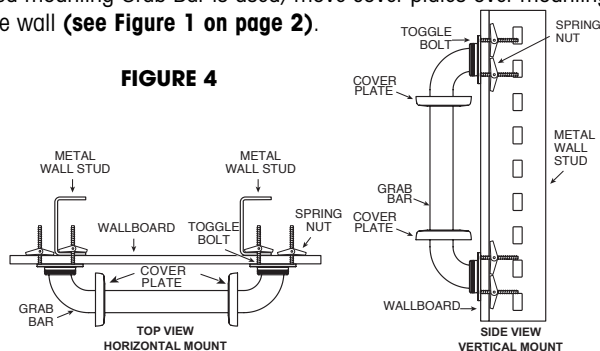

FIGURE 4
4. Position the end of the Grab Bar with the **TOGGLE BOLTS** attached so that you can push the spring nuts and butt ends of the **TOGGLE BOLTS** through the corresponding holes that have been drilled. The spring nuts *must be completely* through the holes in the wall (see **Figure 4**).
6. Pull the **TOGGLE BOLTS** on one end of the Grab Bar toward you and finger tighten the **BOLTS** to be sure that spring nuts have opened fully against the back side of the wall and metal wall studs (see **Figure 4**). If the spring nuts have not opened fully, loosen the bolts and repeat **Step 6**.